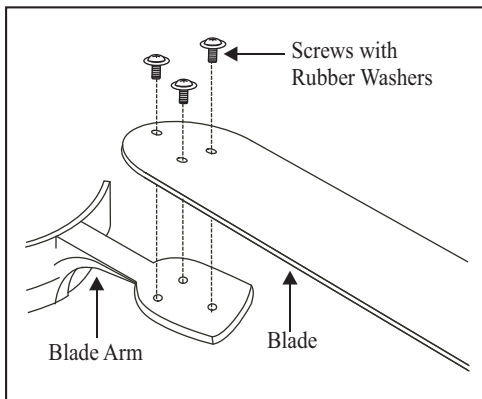

Figure 17
Step 1. Attach blades to blade arms using three screws with rubber washers. (Fig. 17) Start a screw into the blade arm, do not tighten. Repeat for the 2 remaining screws and washers.